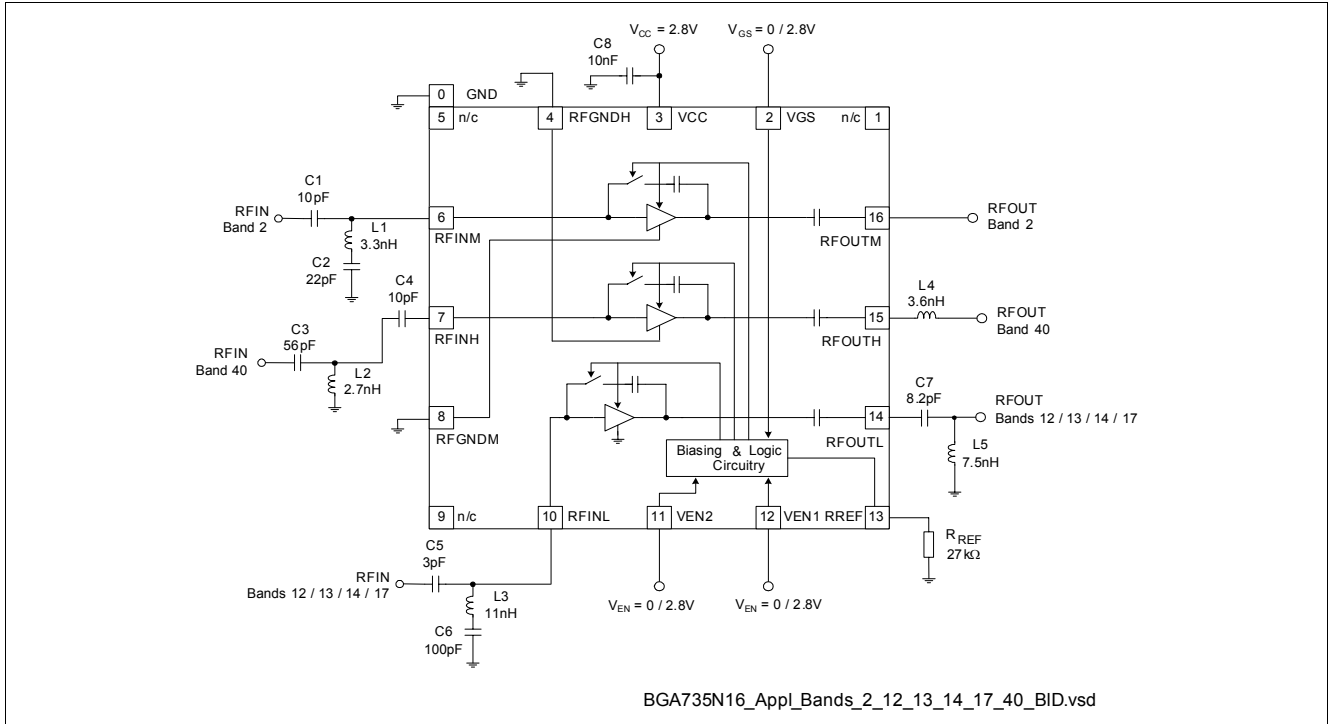

Figure 4 Application Circuit with Chip Outline (Top View)
1) Performance based on application circuit in Figure 4 on Page 26